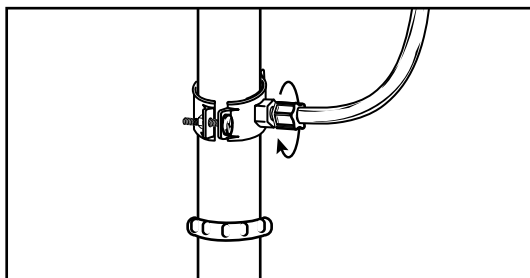

Figure 16
2. Loosen the compression nut two complete turns. Insert the tubing into the nut until it stops. Tighten with fingers, then tighten 1 to 2 turns with a wrench (Figure 16).